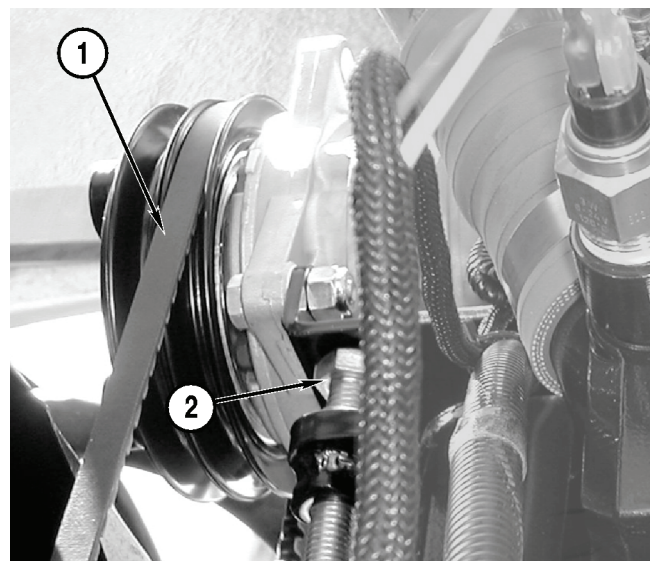

Figure 5-19
Check the A/C compressor belt (**Figure 5-19, 1**) for wear and damage. Replace as necessary.
2. Turn the adjustment screw (**Figure 5-19, 2**) until the belt can be removed.
3. To install the new compressor belt, turn the adjustment screw (**Figure 5-19, 2**) until the belt deflection is 0.750 to 1.00 in. (19.05 to 25.4 mm).
2. Turn the adjustment screw (**Figure 5-19, 2**) to tighten or loosen the belt as needed.